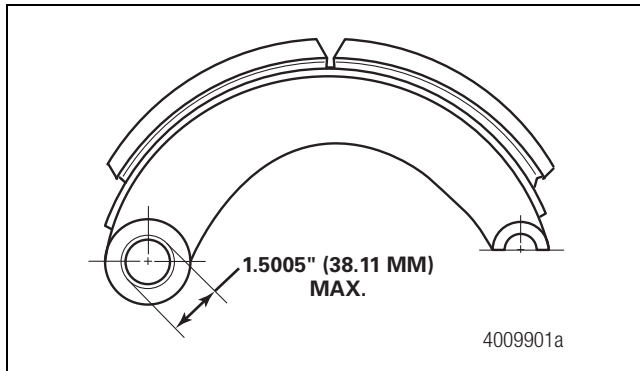
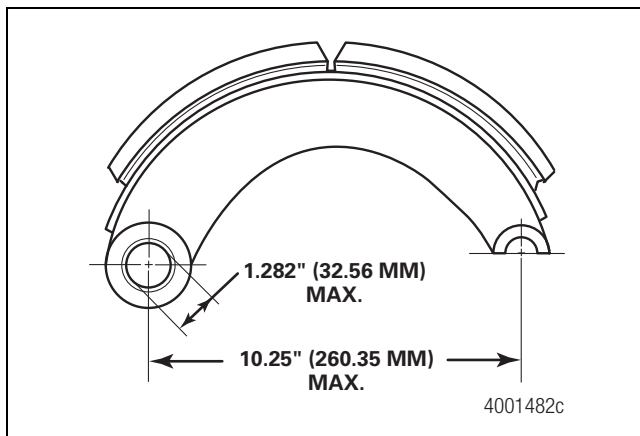

Figure 5.10
Figure 5.11
3. The anchor pin hole without the bushing installed must not exceed 1.5005-inches (38.11 mm). Figure 5.10. The anchor pin hole with the bushing installed must not exceed 1.282-inches (32.56 mm) in diameter. Figure 5.11. Replace any brake shoes that do not meet measurement specifications.
4. With the roller and anchor pin installed, measure the distance from the center of the anchor pin hole to the center of the roller slot. Figure 5.11. The distance must not exceed 10.25-inches (260.35 mm). Replace any brake shoes that do not meet measurement specifications.